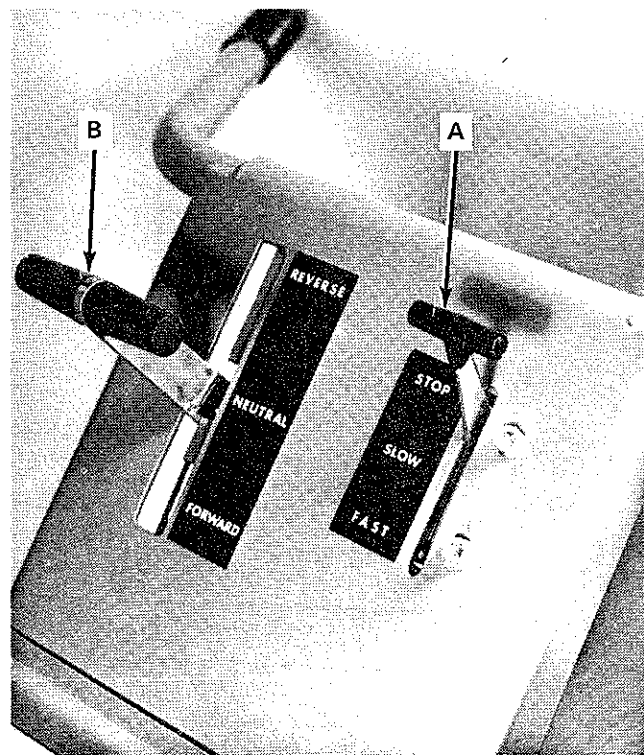

Figure 7. Control Levers
2. Place speed control lever (A, Figure 7) 1/3 to 1/2 way between the SLOW and FAST position. The speed control lever is used to adjust the engine speed. Move it upward toward STOP, or down toward SLOW and FAST to adjust the engine to the desired speed.
3. Place the direction control lever (B, Figure 7) in the NEUTRAL position. The direction control lever is used to place tiller in REVERSE, NEUTRAL, or FORWARD motion. Because of a safety interlock switch under the lever, the tiller cannot be started in any other position other than NEUTRAL.
1. Move the engine speed control lever to the slow position (A, Figure 7).
If the tiller tines will not drive when the direction control lever (B, Figure 7) is in FORWARD position or the tiller will not move when the control lever is in REVERSE, adjust the clutch rod as follows:
2. Place direction control lever (B, Figure 7) in the FORWARD position.
If the tines will not stop turning when the direction control lever (B, Figure 7) is in NEUTRAL position, inspect and adjust, as required, the six belt stops.